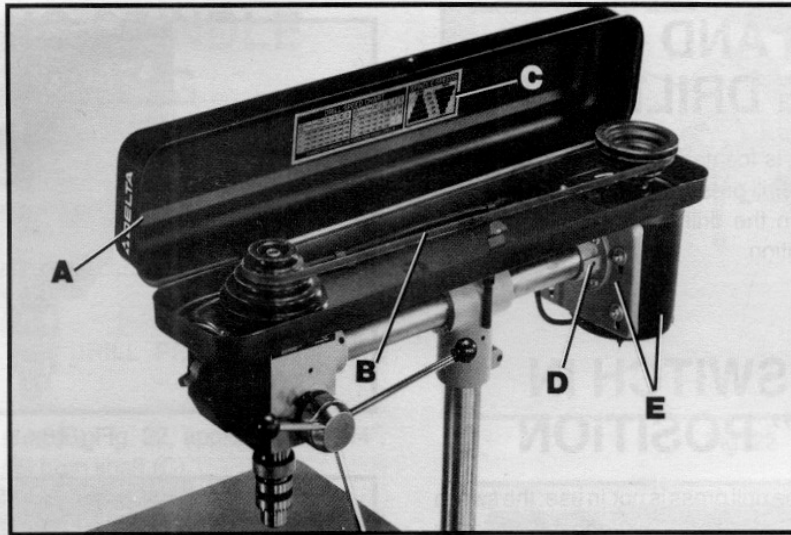

Fig. 17
2. Lift up belt and pulley guard (A) Fig. 17.
3. Position the belt (B) Fig. 17, on the desired steps of the motor and spindle pulleys. **NOTE:** When positioning the belt always move to the smallest step of the motor or spindle pulley first.
4. A belt positioning and drill speed chart (C) Fig. 17, is provided on the inside top cover of the drill press for your convenience.
3. The belt (B) Fig. 17, should be just tight enough to prevent slipping. Excessive tension will reduce the life of the belt, pulleys and bearings. Correct tension is obtained when the belt (B) can be flexed about one inch out of line midway between the pulleys using light finger pressure.
4. If it is necessary to adjust belt tension, loosen the two screws that attach the rear end of the belt and pulley guard to the motor plate and the two screws, one of which is shown at (D) Fig. 17. Move the motor and motor plate (E) in or out on the horizontal column until correct belt tension is obtained. Then tighten the two screws that fasten the rear end of the belt and pulley guard to the motor plate and the two screws, one of which is shown at (D).